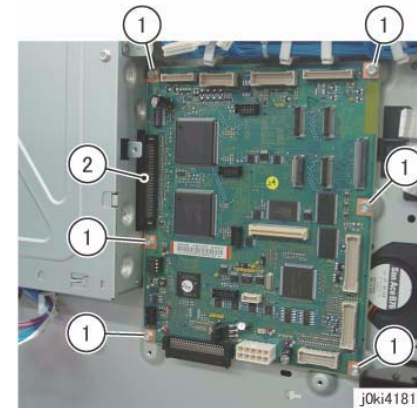

Figure 3 Remove the MCU PWB
9. Remove the MCU PWB. (Figure 3)